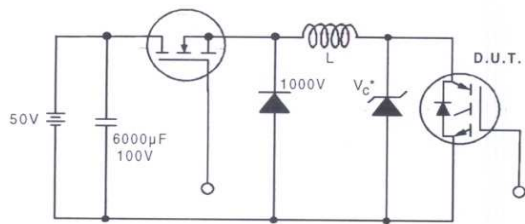

Figure 19. Clamped Inductive Load Test Circuit
- ② $V_{CC}=80\%(V_{CES})$; $V_{GE}=20V$, $L=10\mu H$, $R_G=10\Omega$ (figure 19)
- ③ Pulse width $\leq 80\mu s$; duty factor $\leq 0.1\%$.
- ④ Pulse width $5.0\mu s$, single shot.